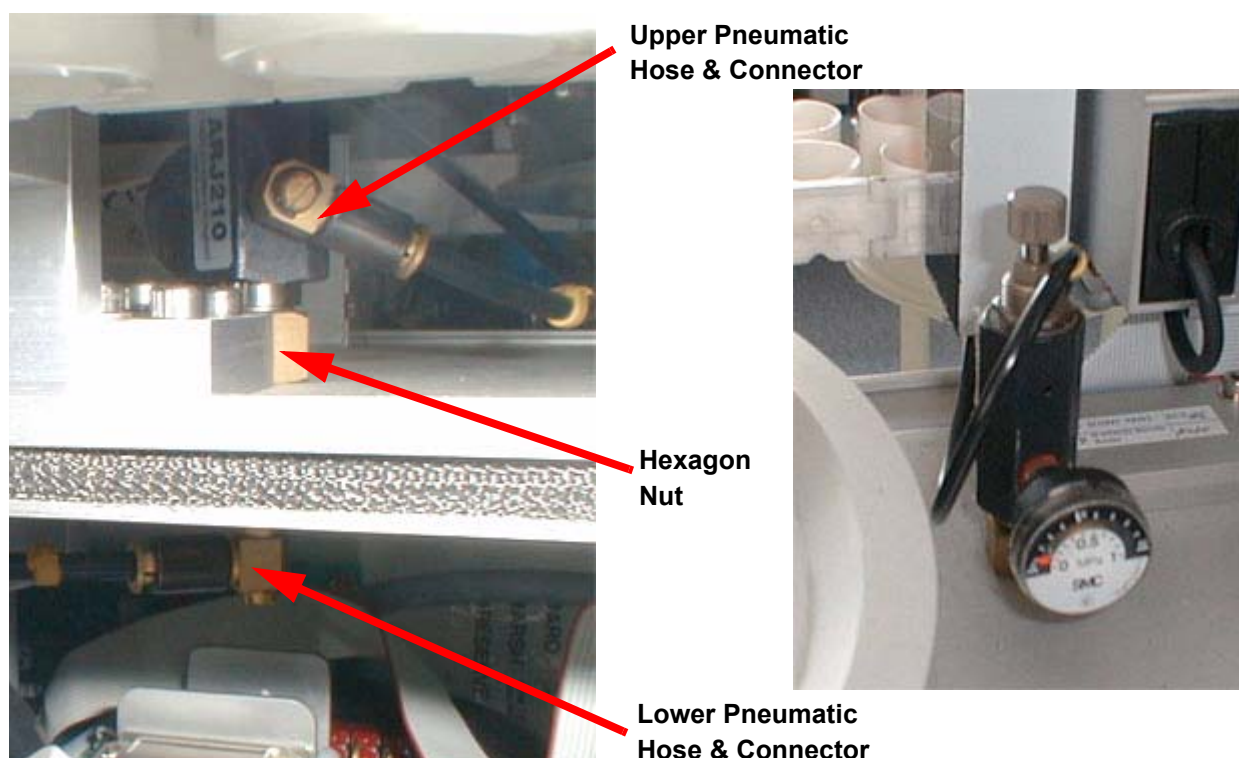

Figure 12.9. Barcode Pressure Reducer with Manometer
1. Mount the barcode pressure reducer (with manometer) by placing it in the round hole provided at the top of the cabinet (refer to (**Figure 12.2**) and **Figure 12.9**). Secure the unit with the hexagon nut. Place the upper pneumatic hose connector with hose onto the lower end of the pressure reducer and screw it on tightly.
Adjust the air pressure to approximately 4 bar (or until the sample spinner rotates freely) by turning the adjusting screw on top of the pressure reducer (***Figure 12.9.***).